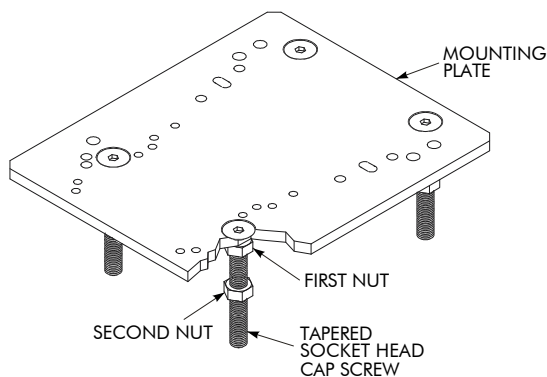

Figure 1 Mounting Plate Assembly
4. Position the four tapered socket head cap screws into the mounting plate and hold in place with 1 nut each. Tighten nuts. Reference Figure 1.
5. Attach a second nut onto each cap screw so that each nut is equal distance from the first nut on the cap screw. Reference Figure 1.
- Position the 4 taper socket head cap screws into the mounting plate and hold in place with 1 nut each. Tighten nut. Reference Figure 1 (Page 1).
- Attach a second nut onto each cap screw so that each nut is equal distance from the first nut on the cap screw. Reference Figure 1 (Page 1).